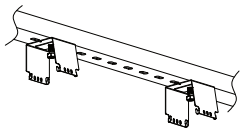

Figure 5
- Step1.Mount the bracket on the rail or ceiling (Figure 5);